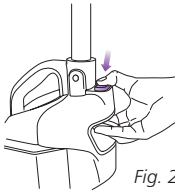

Fig. 24
- 1 To release the vacuum nozzle and change to the steam nozzle, press the top "nozzle release" button. (Fig. 24) Lift the main body up and the vacuum nozzle will be released. You may need to apply gentle pressure to the nozzle head with your foot to separate the two parts.